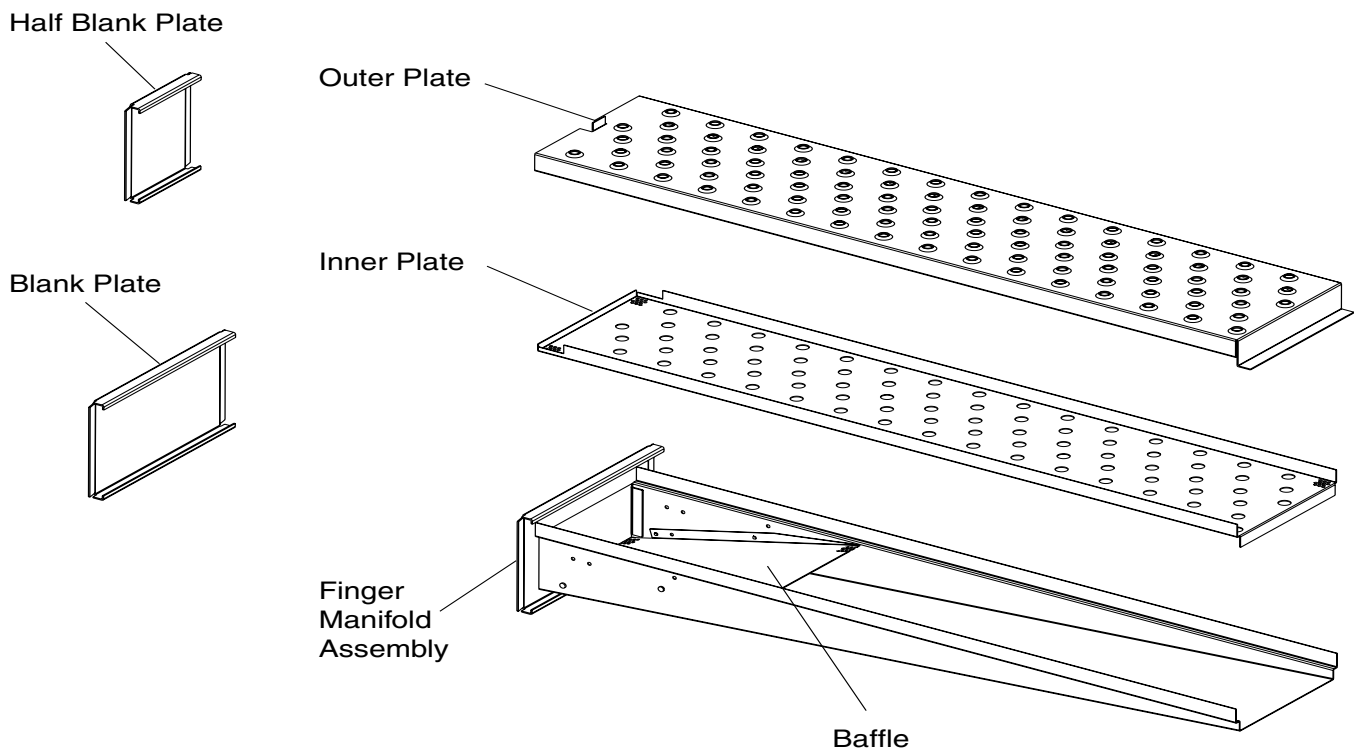

Figure 1-9. Blank Plates (two sizes) and an Air Finger.
F. Air Fingers and Blank Plates - See Figure 1-9